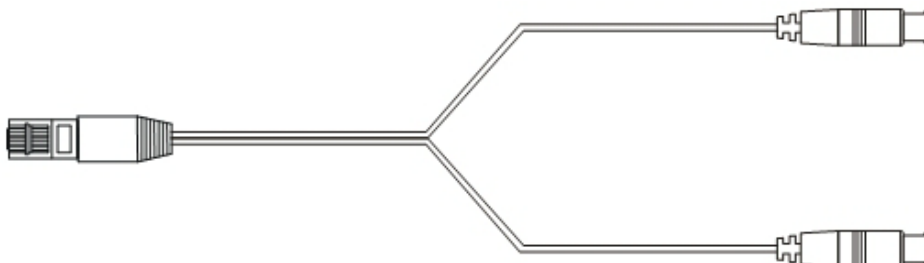

Figure 6-32: Unbalanced E1 adapter cable (Y Splitter)
**Figure 6-32** shows an adapter cable for connecting devices with balanced E1 interface to the user equipment with unbalanced E1 interface. The Y splitter cable includes one RJ-45 balanced connector (left) and two unbalanced BNC coaxial connectors (right).